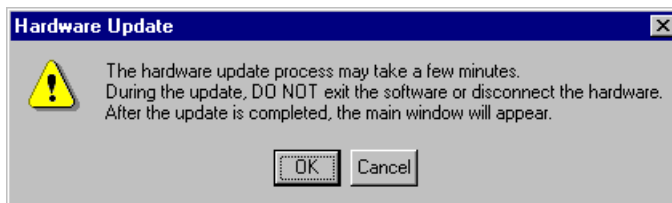

Figure 1-6. Hardware Update Dialog Box
2. Click **OK** to complete the update after reading the message in the **Hardware Update** dialog box, as shown in **Figure 1-6**.